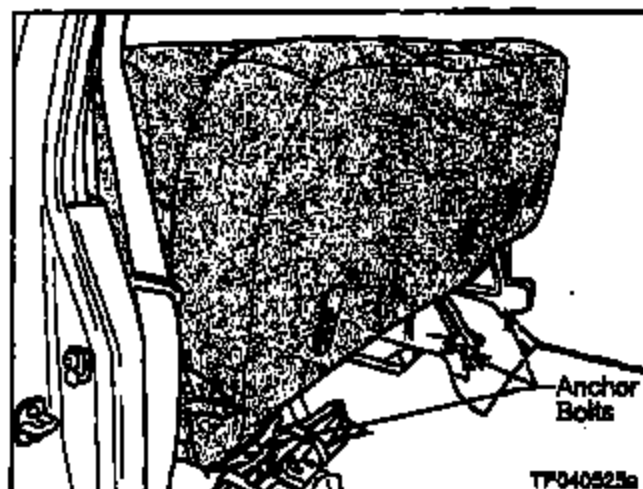

Figure 22
24. Install the 8, 14mm, seat anchor bolts (see Figures 22 and 23).